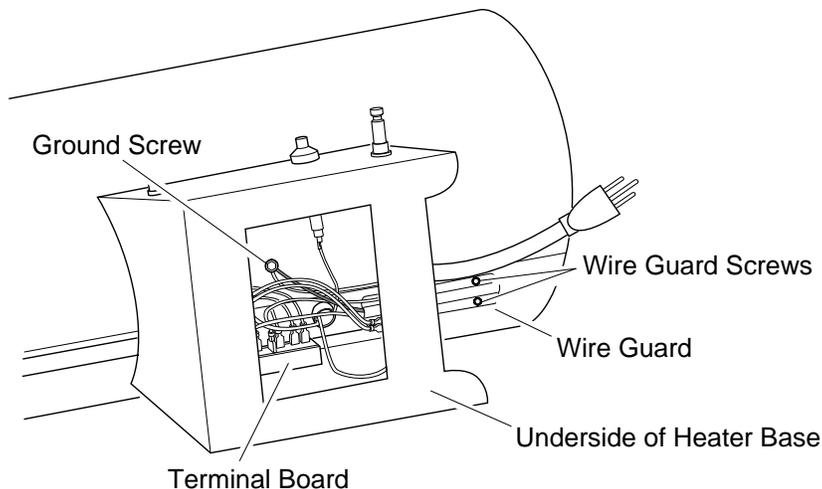

Figure 6 - Location of Ground Screw and Wire Guard
1. Access ground screw through underside of heater base. Remove ground screw. Disconnect the green motor wire and the green power cord wire from underside of shell (see Figure 6).
2. Remove blue, white, and yellow motor wires from terminal board (see Figure 6).
14. Turn heater on its side to access opening in bottom of base. Connect green motor wire and green power cord wire to heater shell using ground screw (see Figure 6, page 11).
16. Attach wire guard to shell with two screws (see Figure 6, page 11).